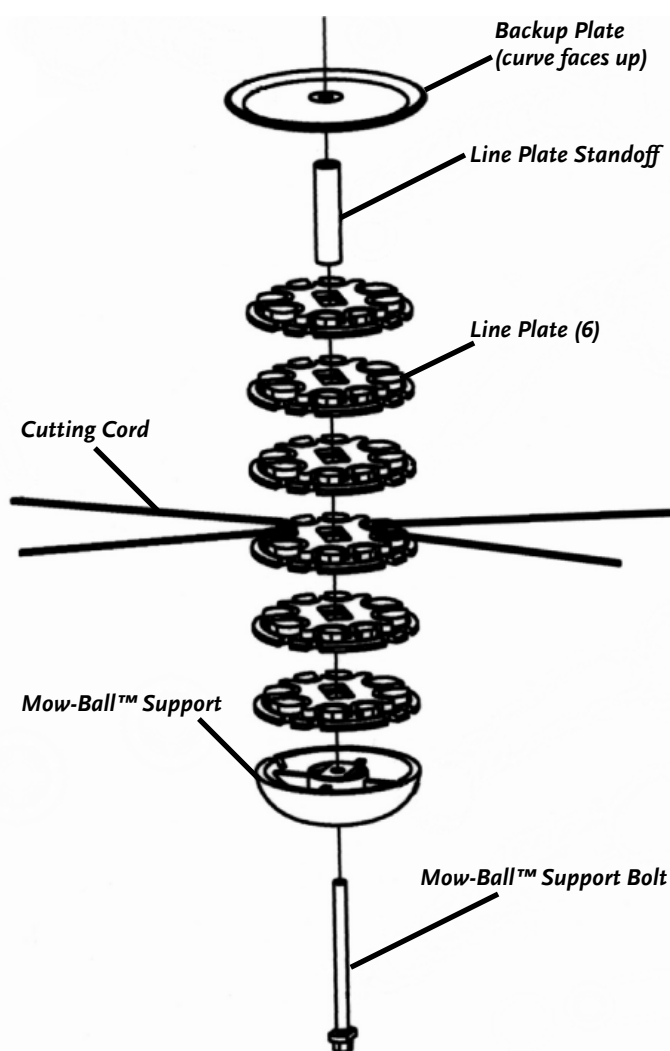

Figure 21
IMPROPER INSTALLATION CAN CAUSE DAMAGE TO THE TRIMMER BEARINGS. FOLLOWING THESE DIRECTIONS CAREFULLY WILL PROTECT YOUR MACHINE FROM DAMAGE. REASSEMBLE THE COMPONENTS IN THE ORDER SHOWN IN *FIGURE 21*.
1. Position the Backup Plate with the lip of the curve facing up (*Figure 21*).
3. Insert the Line Plate Standoff onto the center of the stack (*Figure 21*).